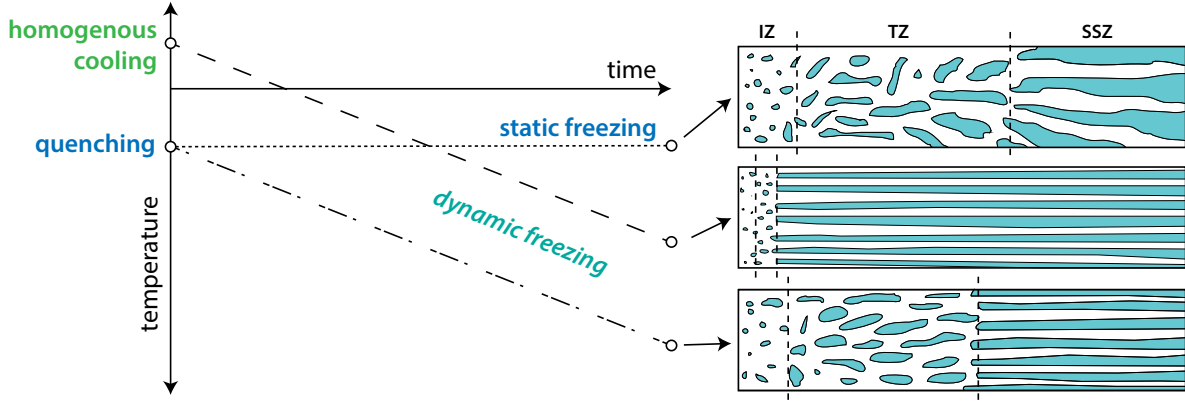

Figure 3: Representative thermal profiles which can be used during freeze-casting and schematic of their associated microstructures.
It is important to understand how the ice morphology changes along the length of the freeze-cast. Once the slurry becomes cold enough, ice crystals will nucleate and grow explosively in every spatial and crystallographic direction. This region of the freeze-cast is known as the Isotropic zone (IZ) because there is no directionality to the growth. Eventually, the freezing front slows down and the basal planes of the growing crystals begin to align with the temperature gradient. This section is known as the Transition Zone or TZ. Finally, once all the growing crystals are aligned with the temperature gradient, you have reached the Steady-State Zone (SSZ). It is primarily in this region that we are interested since there is such an obviously anisotropic microstructure. The size and overall morphology of these three zones can be controlled using various temperature profiles (Figure 3).